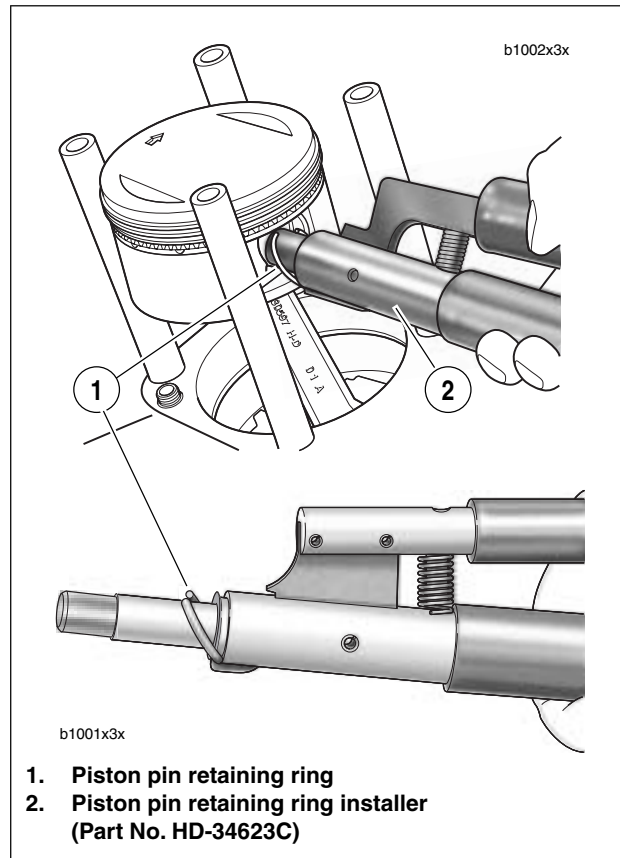

Figure 3-106. Installing Piston Pin Circlip
4. See Figure 3-106. Install **new** piston pin retaining rings (1) using PISTON PIN RETAINING RING INSTALLER (2) (Part No. HD-34623C). Place **new** retaining ring on tool with gap pointing up.